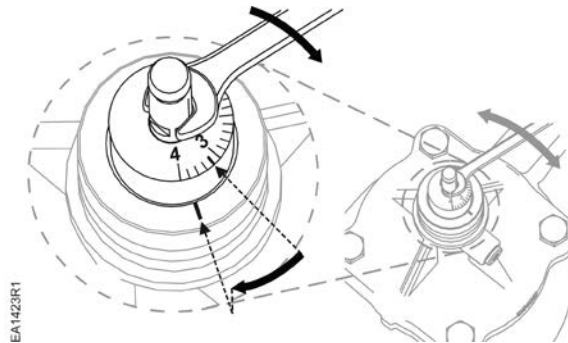

Figure 4. Volumetric Flow/Dial Presetting.
4. Make the presetting as shown in Figure 4. Do NOT adjust presetting to a dial reading lower than 0.6. Use an open-ended, 7 mm wrench to turn the stem with dial to the desired presetting position.